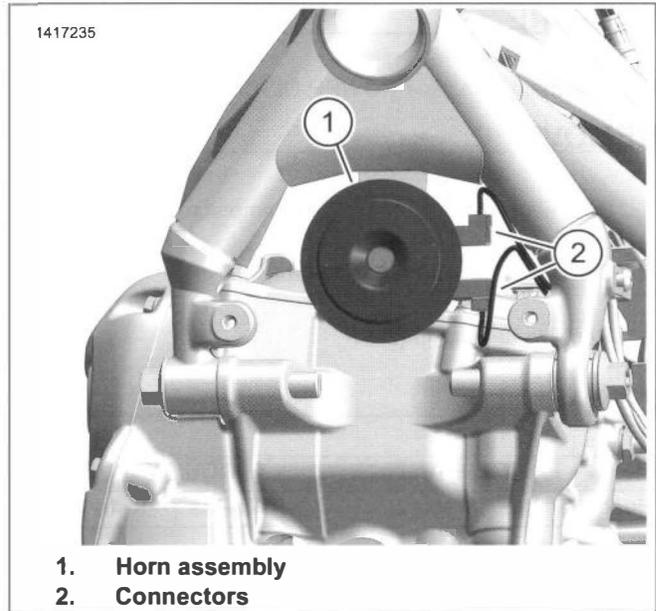
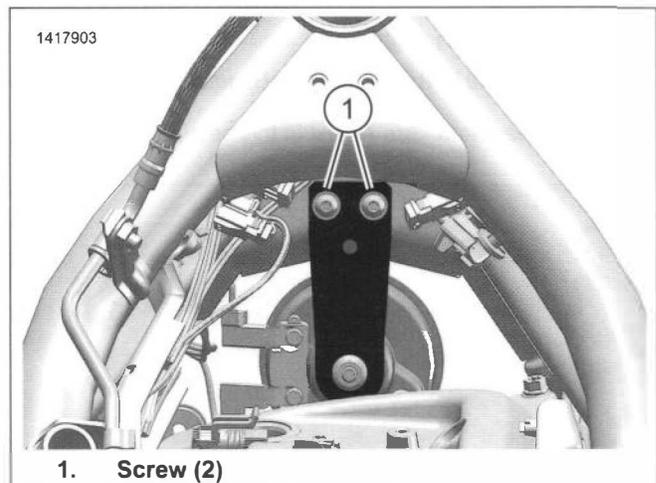

Figure 8-38. Horn
Figure 8-39. Horn Assembly (backside view)
1. See Figure 8-38. Remove horn assembly.
- a. Disconnect horn connectors (2).
- b. See Figure 8-39. Remove screws (1).
1. See Figure 8-38. Install horn assembly.
- a. Install horn assembly (1).
- b. See Figure 8-39. Install screws (1). Tighten.
- c. See Figure 8-38. Connect horn connectors (2).